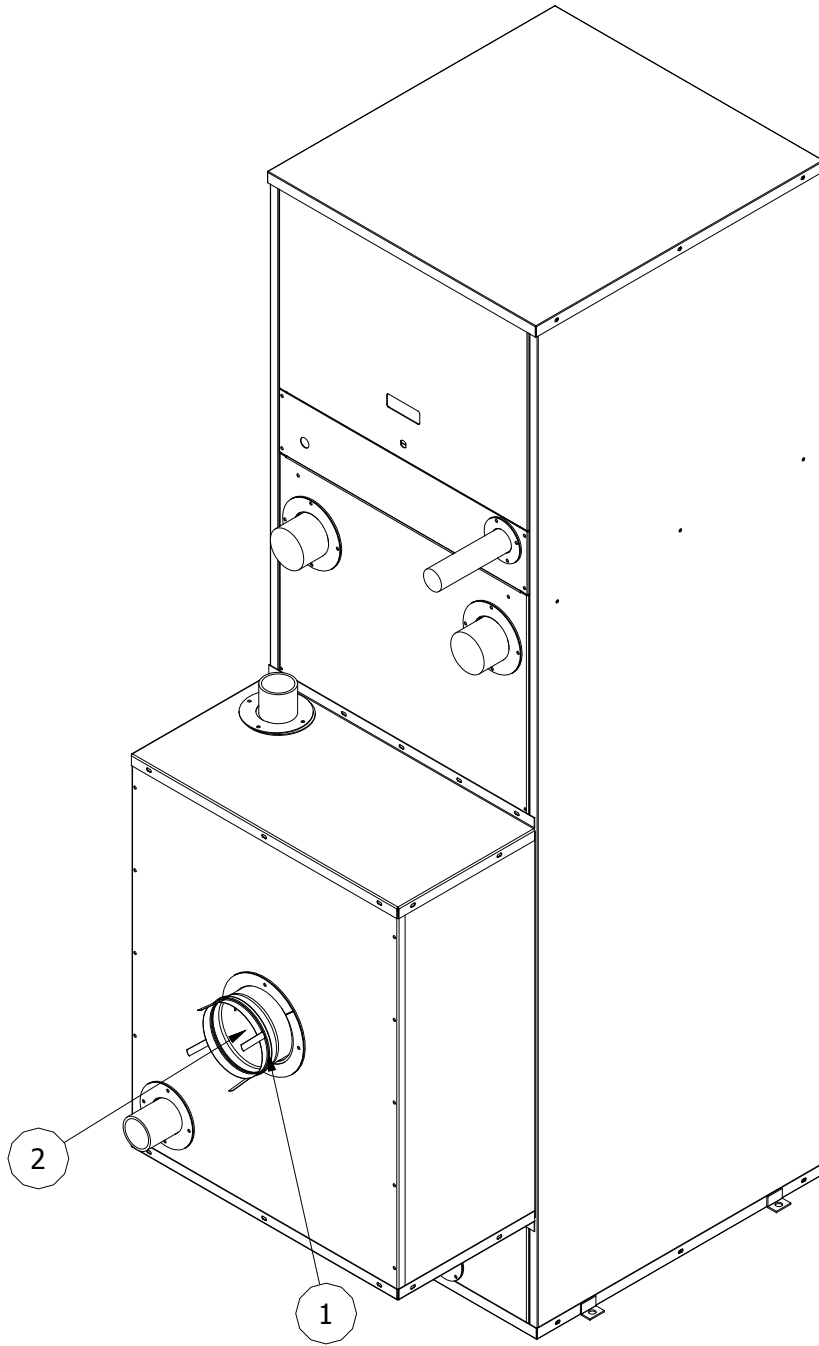

Figure 18: Cleaning Secondary Heat Exchanger
- B. See Figure 18. Use flashlight to inspect the fins of the heat exchanger through stack adapter opening.
- B. See Figure 18. Using the opening in the stack adapter (1) as a point of entry, remove foreign matter from the secondary heat exchanger (2) by spraying an industrial coil cleaner as specified by the manufacturer.